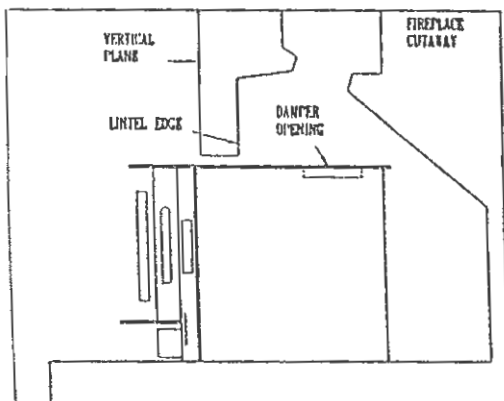

FIGURE 3
When positioning the heater, the following conditions MUST be met! (See Figure 3)
1. The front of the damper opening must be positioned BEHIND the rear edge of the lintel to ensure proper draft. (See Figure 3)
After the unit is positioned, as shown in Figure 3, mark the mounting position of the trim panels as follows: